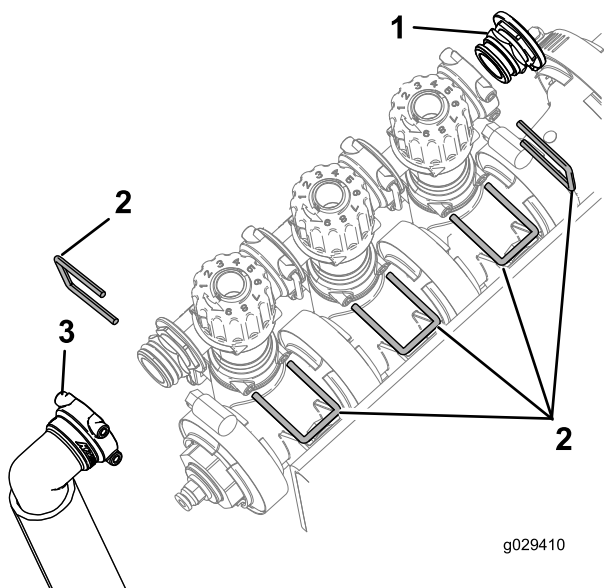

Figure 10
3. Remove the retainers holding the bypass-valve cluster for the boom, the end cap, and the fitting and hose assembly as shown in Figure 10.